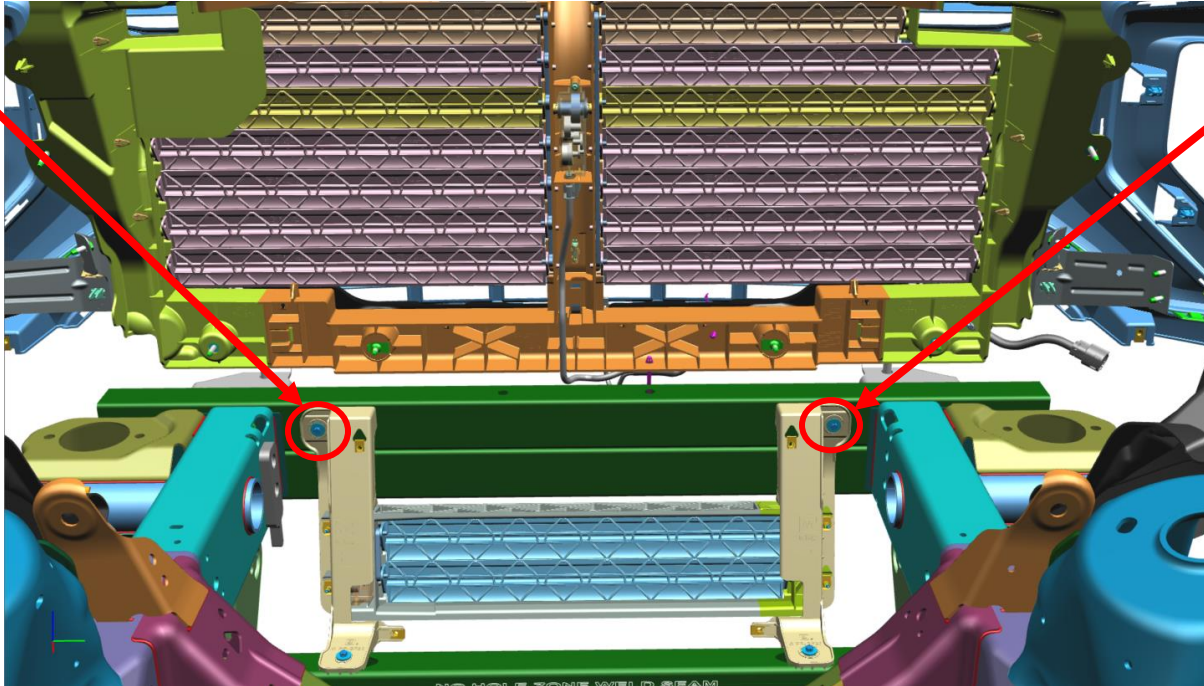

Figure 17 – Backside of Impact Bar
- a. Remove [1] M4 Bolt (M7 Socket) per side of Shutter-Baffle and SAVE – Fig. 17